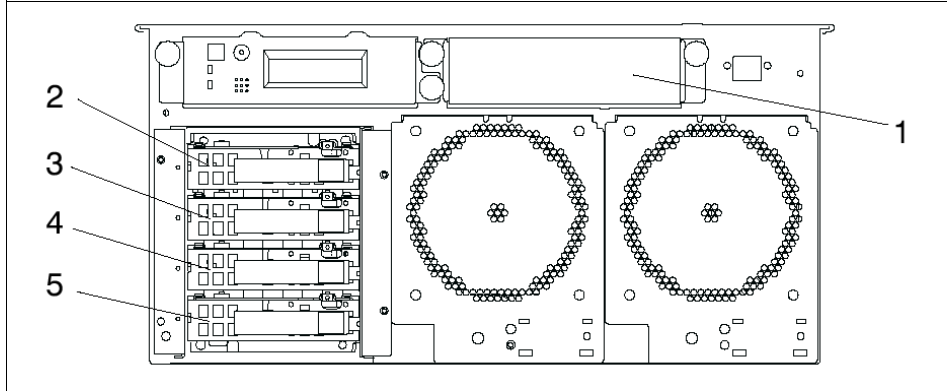

Figure 3-42 Disks and media bay locations
- ▶ Media bay 1 (refer to Figure 3-42 on page 148 and Table 3-30 on page 148) can accommodate a CD-ROM, DVD-RAM, tape drive, or other media device.
Figure 3-42 on page 148 shows the disks and media bay locations.